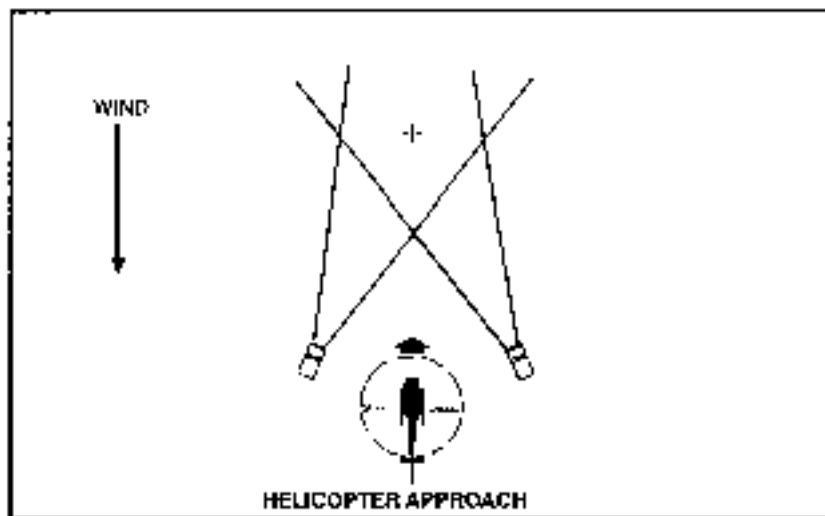

Figure 4-14. Emergency night lighting by vehicle headlights.
c. One example of emergency night lighting is to use vehicle headlights. Place two vehicles about 35 meters apart and 35 meters downwind of the landing point with their headlight beams intersecting at the center of the landing point (Figure 4-14). The helicopter approaches into the wind, passes between the vehicles and lands in the lighted area. This method is not suitable for large helicopters.